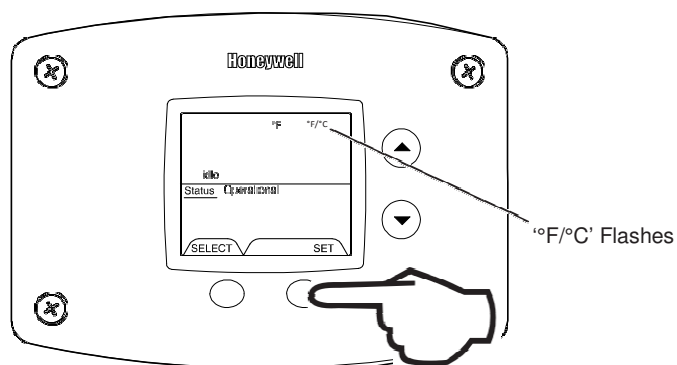

Fig. 54
- Press 'Set' button to change temperature format. '°F/°C' symbol will flash in the water heater display (Fig. 54).